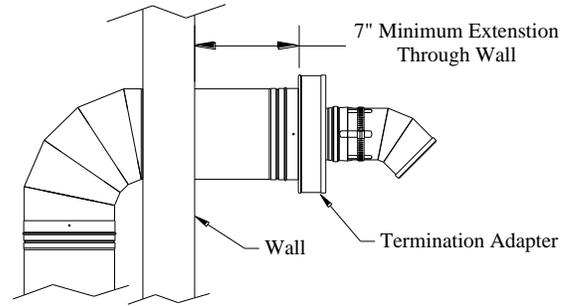

Fig 7. (Minimum Extension Through Wall)
11. Install Termination Adapter (VT). The VT can be recognized by the presence of an extra housing around the outlet end of the adapter which provides a passage way for intake air. This intake air passage way must remain free from obstruction at all times.
- a. Connect the inlet end of the VT to the vent extending through the roof or wall. Join parts using the standard DT-M joint connection method. Note: For Horizontal installation, the VT must be at least 7" from the wall (See Fig 7), and at least 12" from the Roof in vertical installations (Note: 24" or higher may be required in regions where a large amount of snow falls).